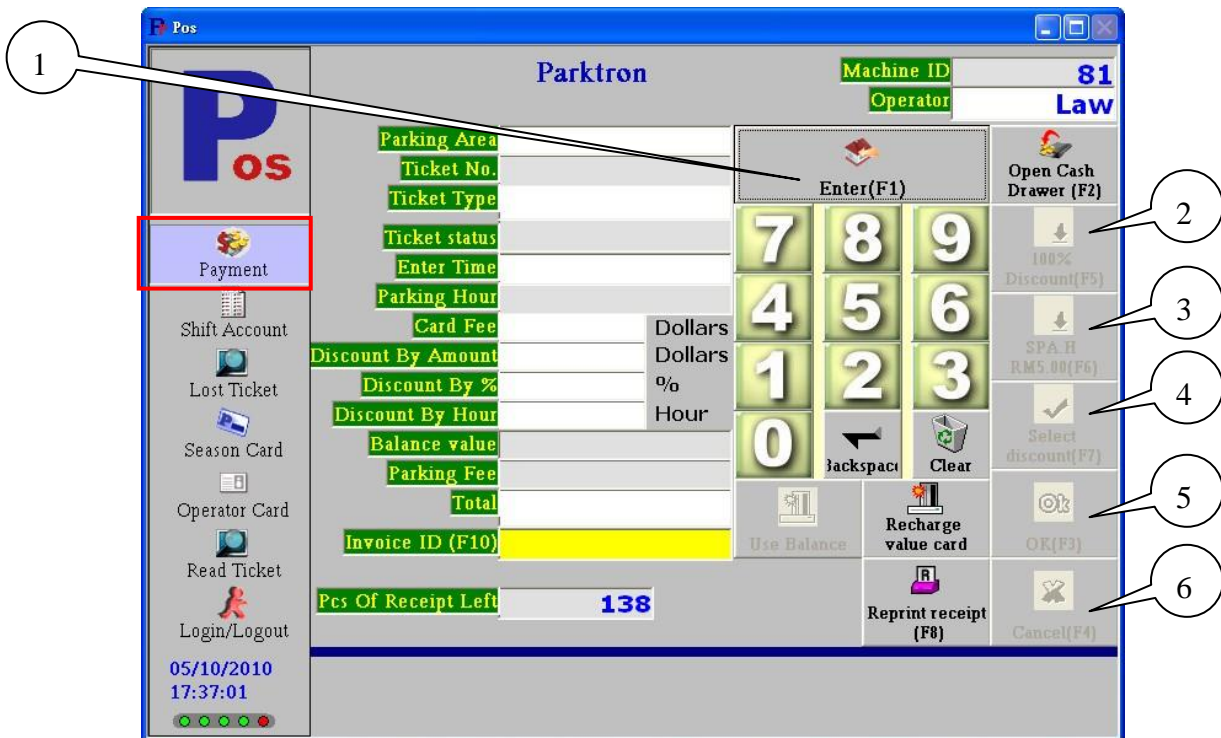
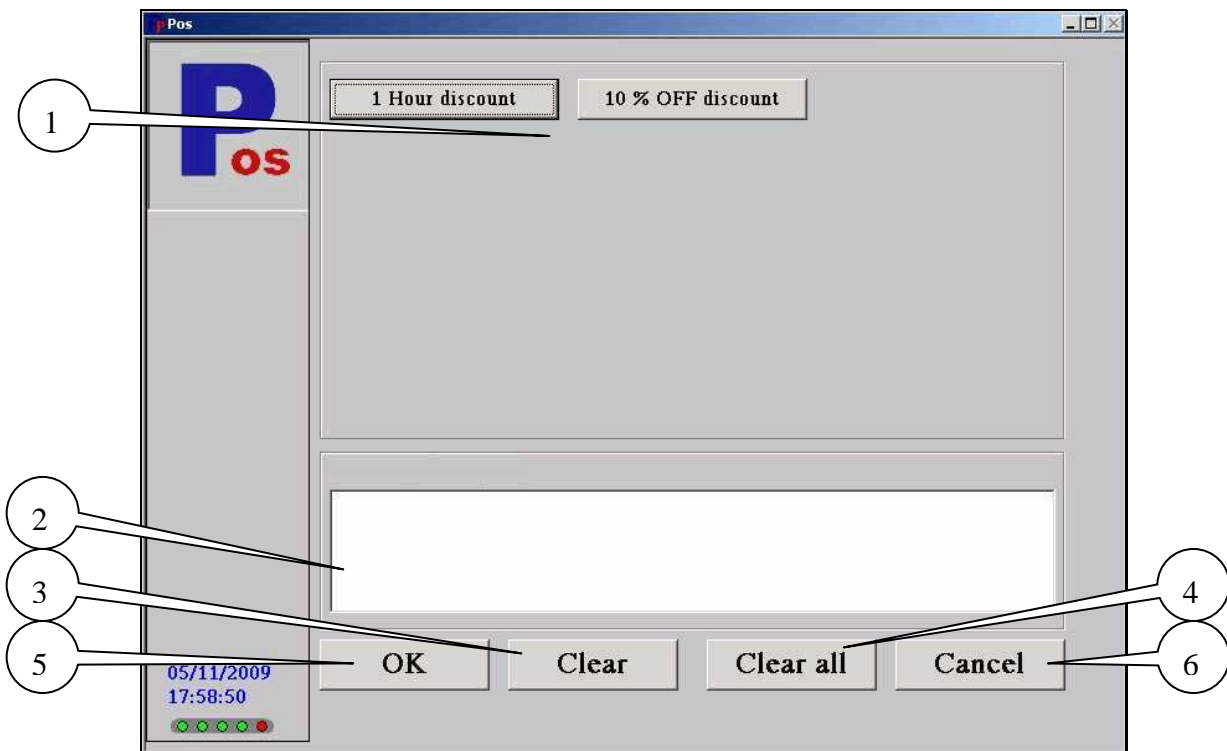

Fig. 4-1
Fig. 4-2
Push **[Enter]** button (No1 in Fig. 4-1.) to enter payment process. Place a ticket (card) on to card reader to read and show all ticket data on the screen.
Push either one of No. 2, 3 or 4 discount button in Fig. 4-1 to enter the discount selection page below (Fig. 4-2) for selecting available discount type(s) to apply to the ticket.
1. Push **[OK]** button (No. 5 in Fig. 4-1) to confirm and conduct the payment proceed.
2. Push **[Cancel]** button (No. 6 in Fig. 4-1) to cancel a payment operation.